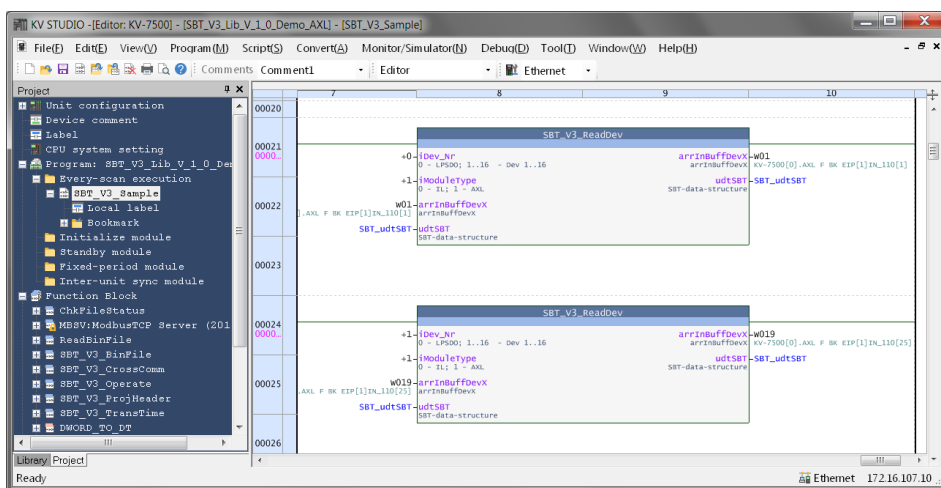

Figure 4-23 Function block SBT_V3_ReadDev
- Connect the function blocks as shown in Figure 4-23.